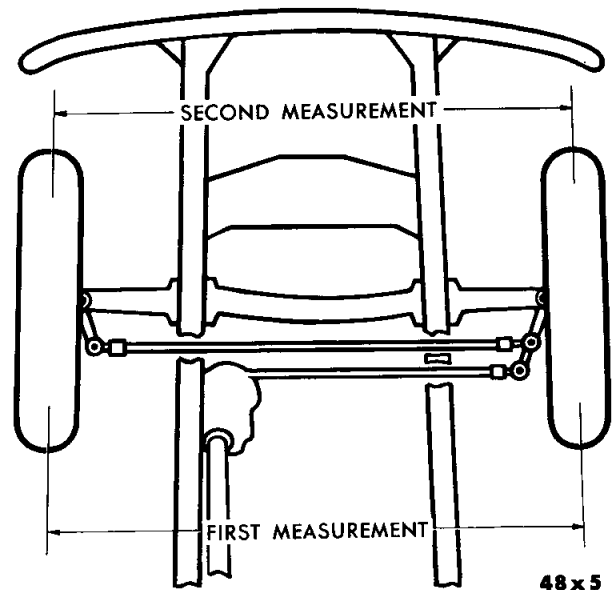

Fig. 24—Actual Front Wheel Toe-In Measurements
Toe-in is the amount (in fractions of an inch) that the front wheels are closer together at the front than they are at the back, as viewed from the top of the truck (Fig. 24).
- (3) Actual toe-in measurements should be taken at hub-height, between two points on the center of the tread at the rear of the tires (Fig. 24).